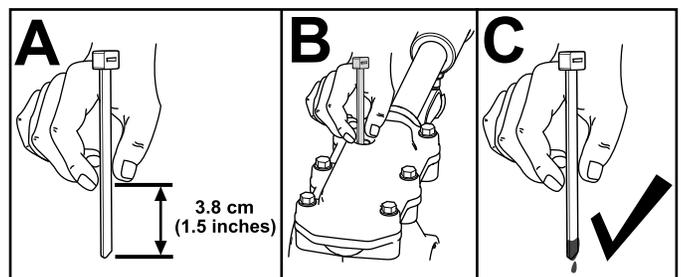

Figure 32
- 3. Check the oil level using a suitable measuring device, such as a clean cable tie. The oil should be approximately 3.8 cm (1.5 inches) below the filler opening (Figure 32).